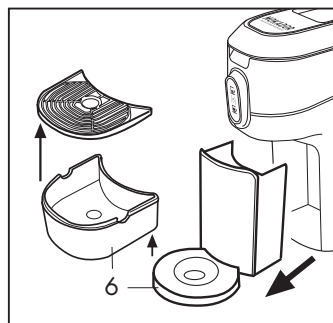
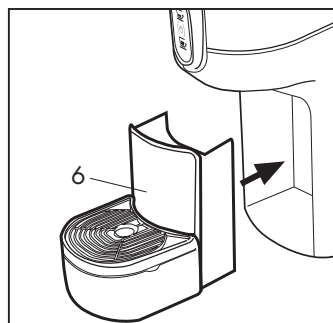

Fig. 10
Fig. 11
Empty the capsule container regularly to ensure that they do not get stuck. To perform this operation, take out the drip tray (6) and remove the grid (5) (Fig. 10) Empty the the container, wash and dry the components, then refit the drip tray (6) and insert it in its seat (Fig. 11)